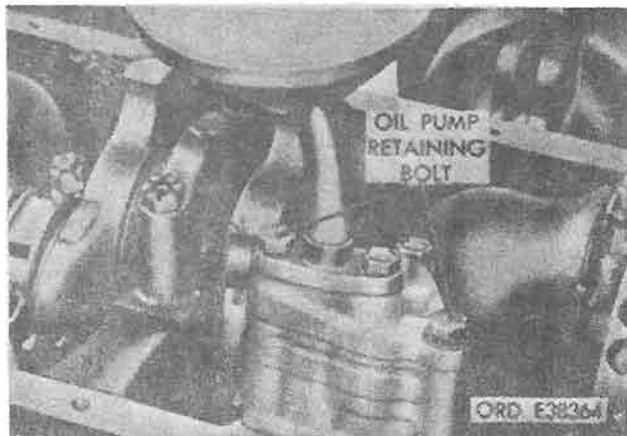

Figure 4-90. Oil pump retaining bolts.
b. **Oil Pump Retaining Bolts.** Remove two outer hex-head bolts, lockwashers, and flat washers retaining oil pump to cylinder block (fig. 4-90).